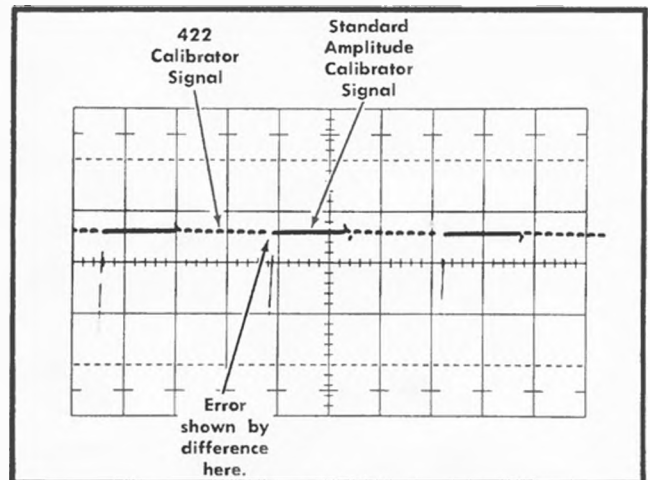

Fig. 6-31. Typical test oscilloscope display when checking external calibrator. Vertical deflection, 0.2 volt/division; sweep rate, five milliseconds/division.
f. Note the difference between the standard amplitude calibrator output (zero-volt level) and the Type 422 CALIBRATOR output level (see Fig. 6-31).